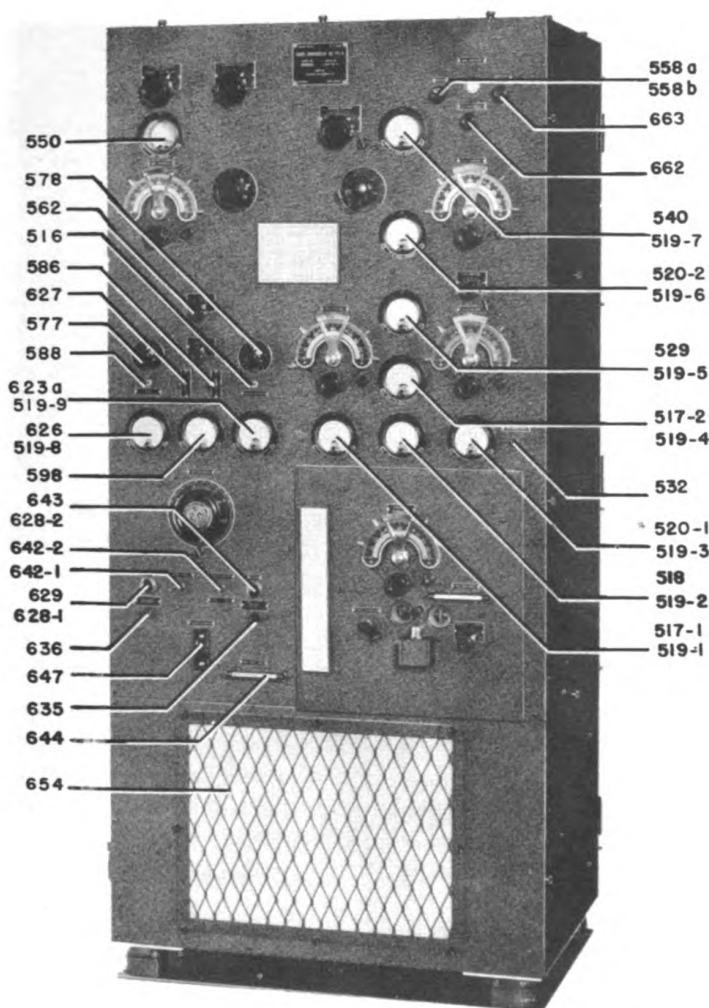

FIG. 1 RADIO TRANSMITTER BC-325-B, FRONT VIEW
(1) Radio Transmitter BC-325-B which is shown in Fig. 1 contains in its single cabinet all the electrical circuits necessary to produce within the frequency range of 1500-18000 kc., a CW signal of approximately 400 watts or a voice or tone modulated signal of 50 watts sideband power. All power supplies are included and require only a 110 volt, 60 cycle, single phase source for operation.
(2) Internally, the cabinet of Radio Transmitter BC-325-B is of a shelf-type construction with a center bulkhead running vertically to divide all but the bottom compartment in half. This latter compartment contains the ventilating fan, the larger transformers, chokes, and filter capacitors of the four power supplies, along with a fuse block and terminal board, while the compartment directly above on the left hand side houses the smaller power supply components, the rectifier tube housing and the power control relays. The second compartment up on the left, viewing the cabinet from the front, has in it the keyer